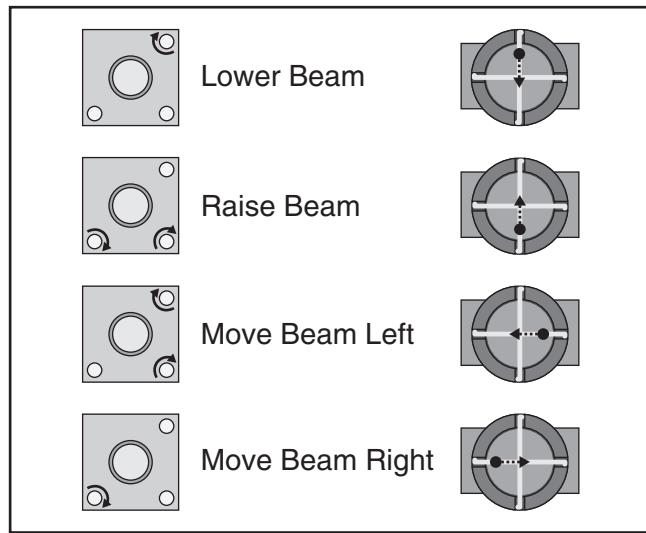

Figure 110. Mirror thumbscrew adjustment.
15. Adjust direction of beam path by tightening thumbscrews depending on desired direction of beam travel (see **Figure 110**).
22. Adjust direction of beam path by tightening thumbscrews depending on desired direction of beam travel, as shown in **Figure 110**.